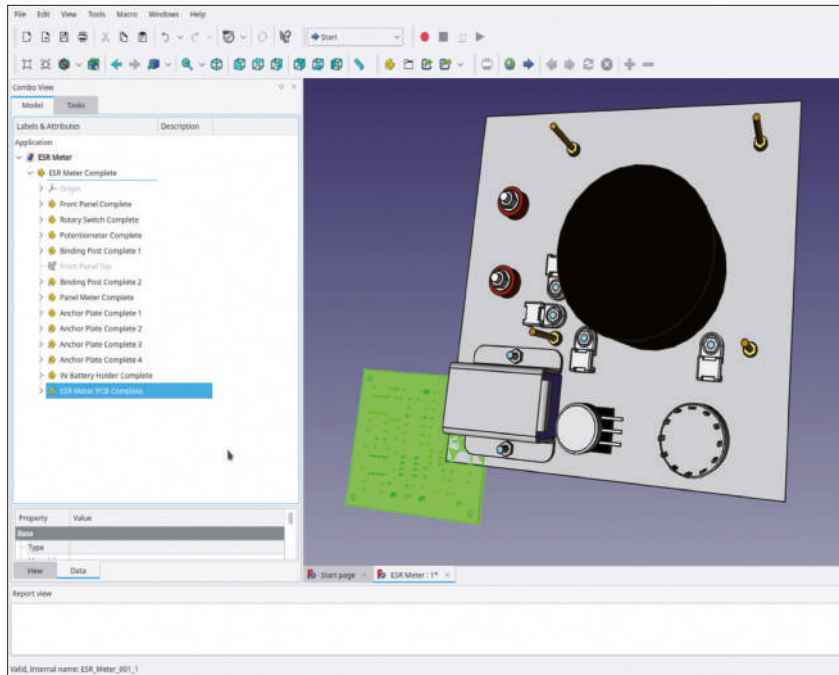

Figure 7-60
4. Drag and drop the new Std-Part-Container into 'ESR Meter Complete'. That's all there is to it – simple and efficient (Figure 7-60).